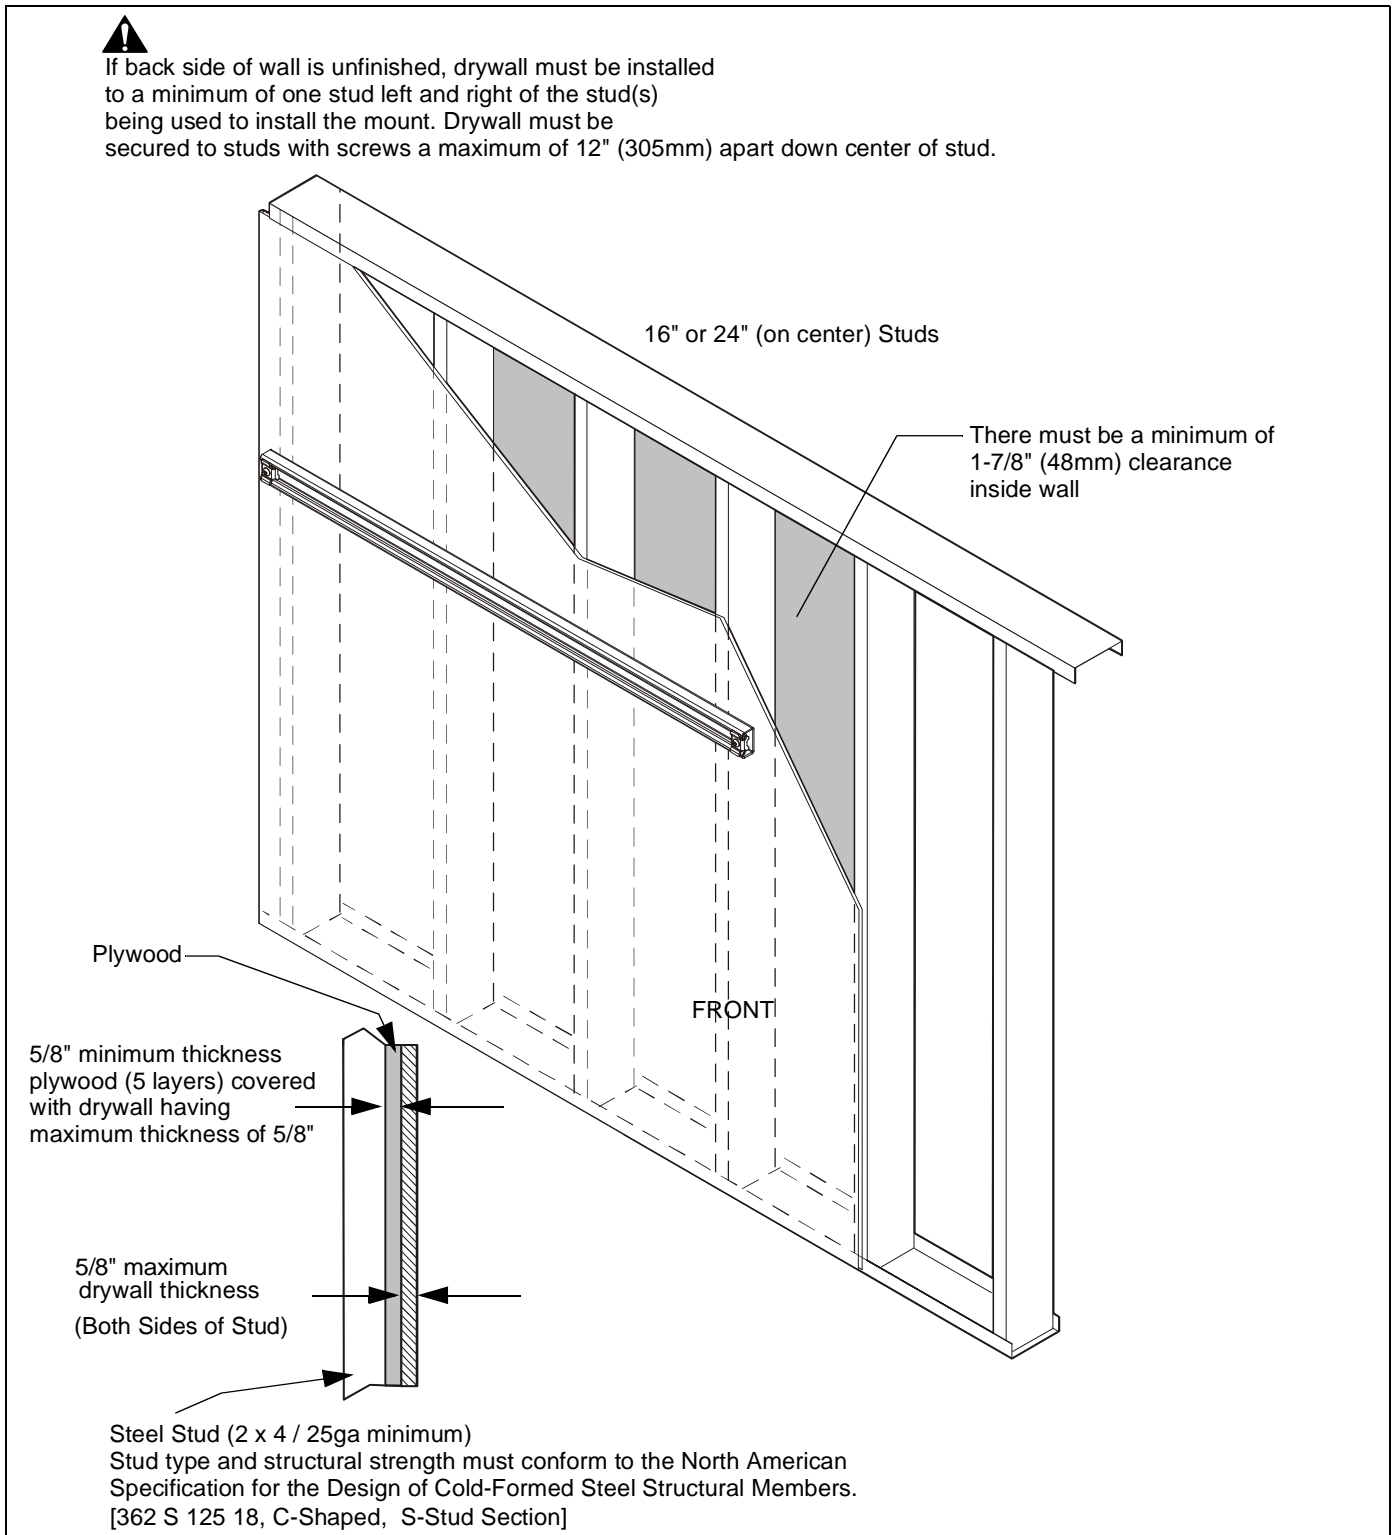

Figure 21
1. Use one #14 x 1-1/2" hex-head washer slot head screw (N) and one 1/4" washer (M) through strut channel or rail. (See Figure 21)